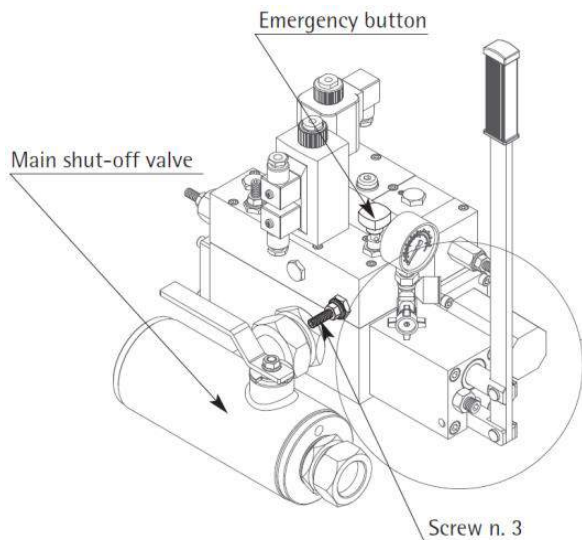

Figure 27 – Adjusting of the rod counterpressure
- Adjust the counter-pressure as follows (see Figure 27):